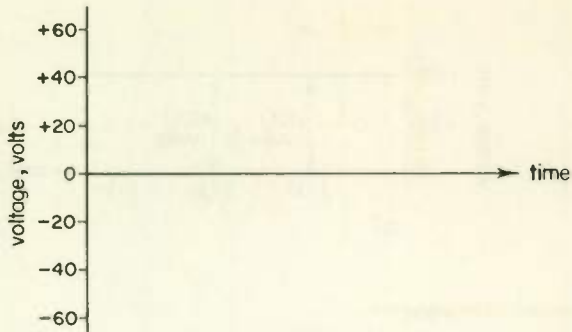

Fig. 2
3. You have made voltage measurements across two resistors, with respect to ground, in a video amplifier. The voltmeter indicates 30 volts across resistor R_1 at all times and -60 volts across R_2 at all times. Draw lines on the graph in Fig. 2 to indicate these measurements.